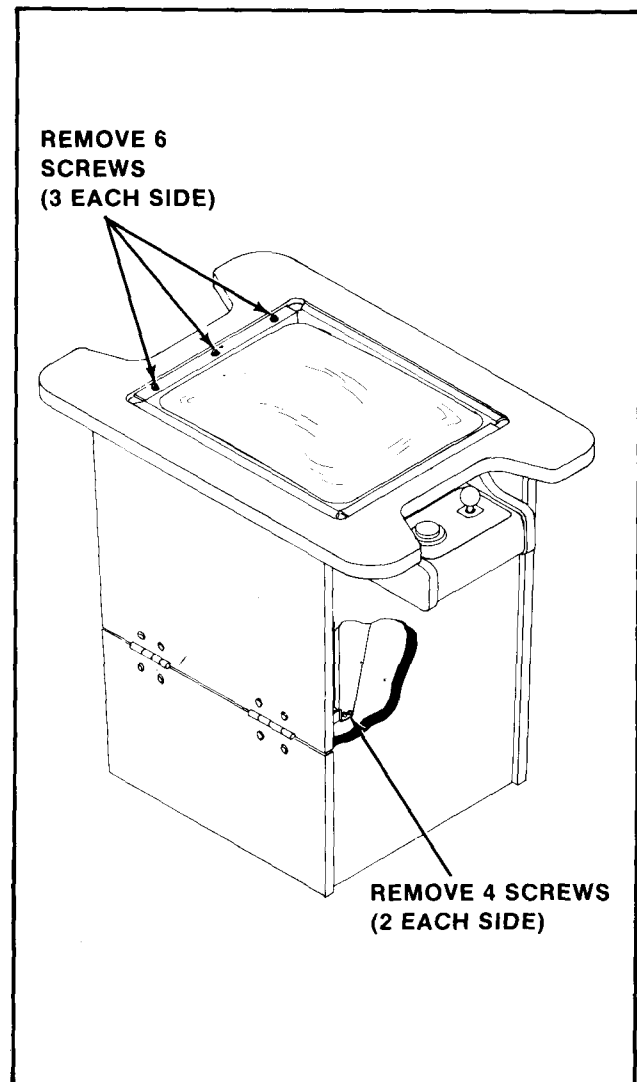

Figure 4-11 Removing Monitor — Cocktail
**3. COCKTAIL TABLE MODEL:** See Figure 4-11.
- Remove the screws holding the T.V. monitor chassis to the "L" brackets by the door hinge(s). See Figure 4-11.
- Remove the screws which secure the T.V. monitor mounting brackets to the edges of the slot cut in the table top. See Figure 4-11.